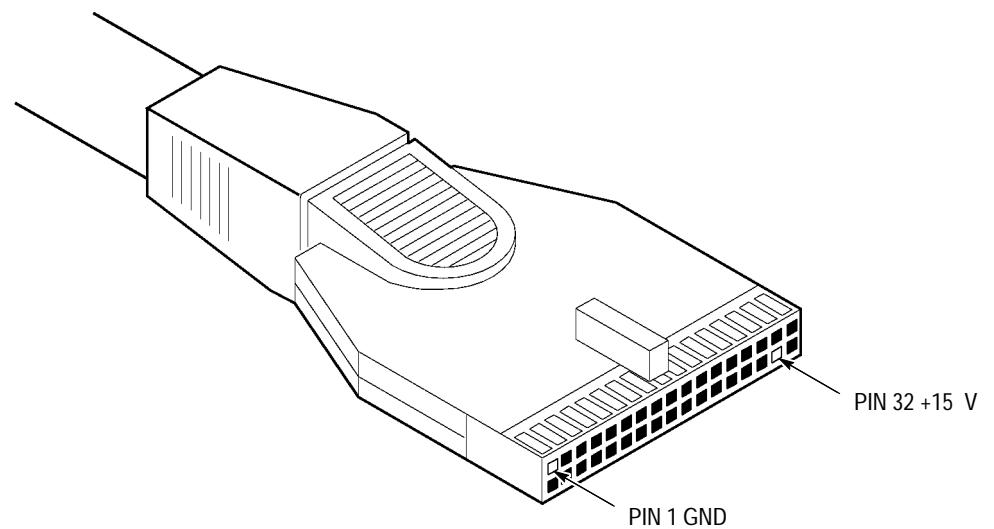

Figure 4–34: Pod Connector of the P6461/E Probe
2. Check the resistance of the probe at the pod connector with the negative lead on pin 1 (ground) and the positive lead on pin 32 (+15V). (Refer to Figure 4–34.) A reading of approximately 1 k Ω or more indicates the probe is not the source of the problem.
4. Locate the faulty coaxial wire by using the pin-number location illustration of the coaxial-cable assembly header (see Figure 4–35).
8. Use the header latch release tool to unlatch both contacts of the faulty coaxial wire from the header at each end of the assembly (refer to Figure 4–36). Do not lift the latches farther than necessary to unlatch the contacts of the coaxial wire to prevent damage to the latches (causing intermittent operation of the coaxial cable assembly). Extract the coaxial wire completely before releasing the latch.